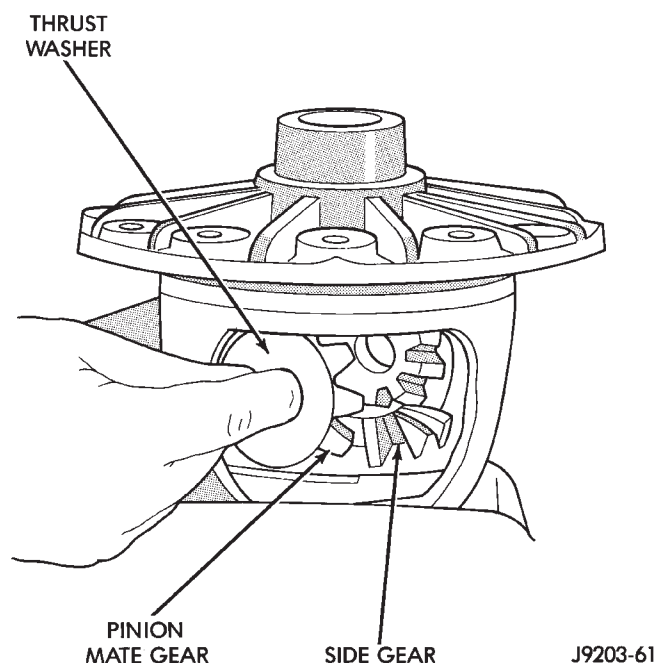

Fig. 41 Pinion Mate Gear Removal
- (3) Remove the pinion gear mate shaft from the differential case and the pinion mate gears.
- (4) Rotate differential side gears and remove the pinion mate gears and thrust washers (Fig. 41).